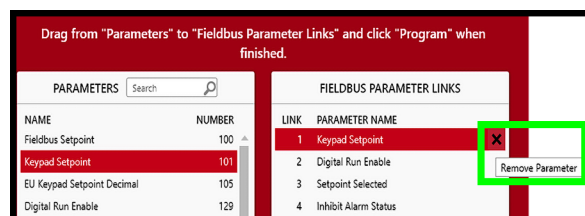

Figure 7.00: Remove a parameter to make room for a new one
- On the right hand column (“FIELDBUS PARAMETER LINKS”), hover over the right side of a parameter, and click the black ‘X’ (Figure 7.00).